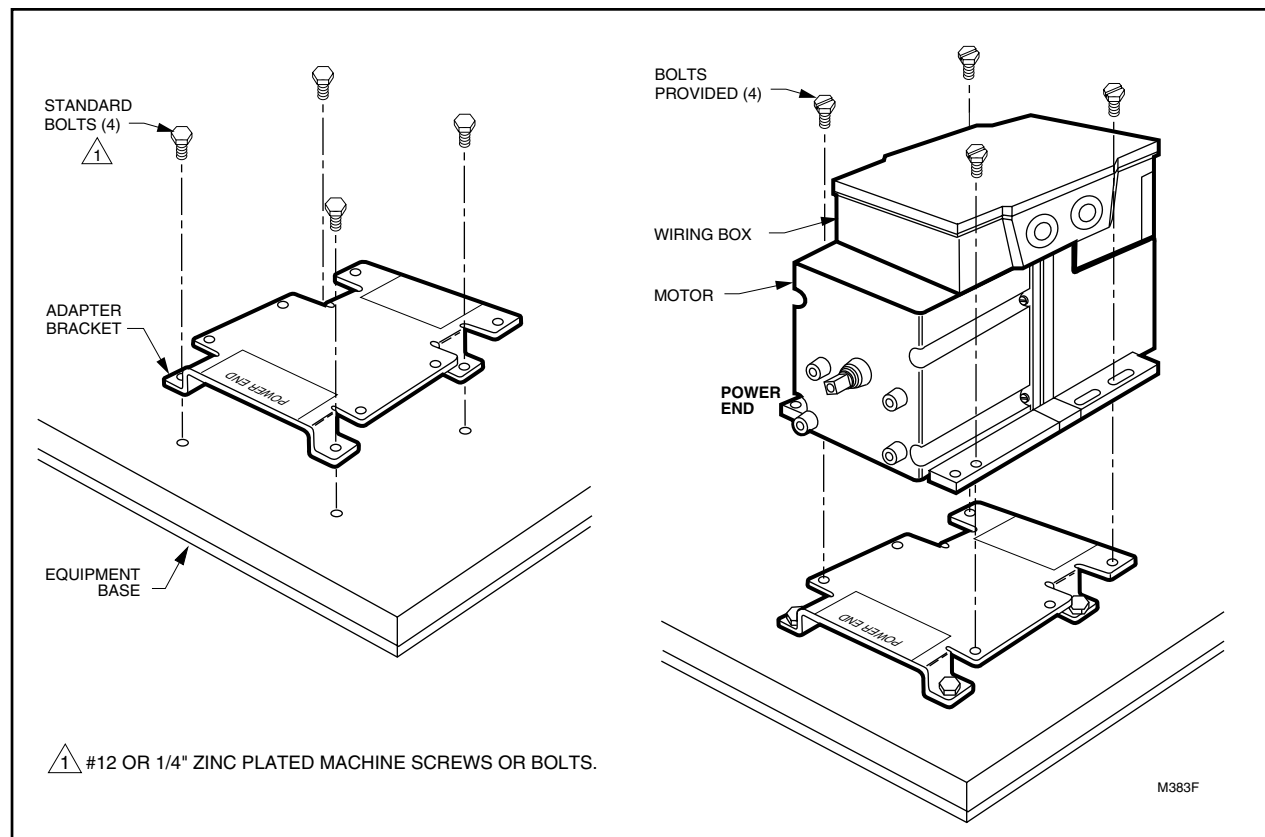

FIG. 3—MOUNTING MOTOR WITH ADAPTER BRACKET.
2. Mount the motor to the bracket using the bolts provided to the threaded holes in the bracket. See Fig. 3.